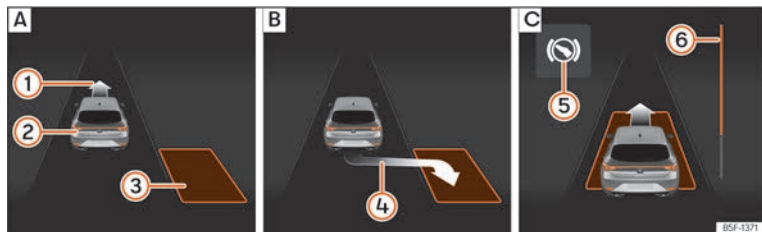
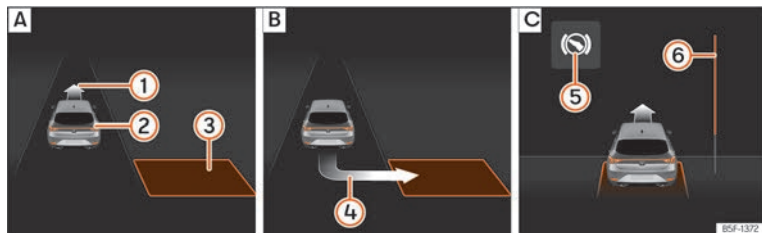

Fig. 200 On the instrument panel display: parallel parking. **[A]** Finding a parking space. **[B]** Parking position. **[C]** Manoeuvring.
Fig. 201 On the instrument panel display: angle parking. **[A]** Finding a parking space. **[B]** Parking position. **[C]** Manoeuvring.
- Look at the display on the instrument panel to see if the space has been detected as “appropriate” and if the correct position for parking has been reached »» Fig. 200 **[B]** or »» Fig. 201 **[B]**. The space is considered
- Reverse until the continuous ParkPilot signal sounds; **OR:** reverse until the indication to move forward appears on the instrument panel display »» Fig. 200 [C] or »» Fig. 201 [C]; **OR:** reverse until the **Park Assist finished** message appears on the instrument panel display. The progress bar (6) indicates the distance to cover »» page 284.
- Press the brake pedal until the parking assist system completes the steering wheel turns; **OR:** until the symbol (S) goes out on the instrument panel screen.
- Move forward until the continuous ParkPilot signal sounds; **OR:** move forward until the reverse indication appears on the instrument panel display. The Park Assist system steers the vehicle forward and back until it centres it in the space »» Fig. 200 [C] or »» Fig. 201 [C].
»» Fig. 200 (6) and »» Fig. 201 (6) on the screen of the instrument panel displays the relative distance to be covered. The greater the distance, the fuller the progress bar.